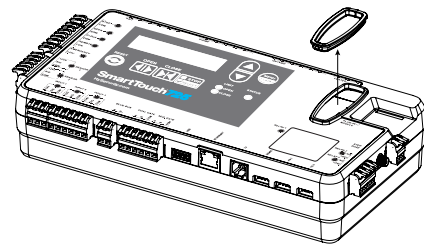

Figure 39. Remove OXI Receive Port Rubber Plug
2. Install the receiver. (Figure 39)